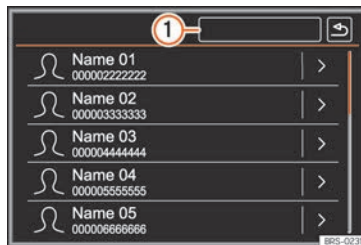

Fig. 222 Contacts Menu (phonebook).
- Press the **Search** function button »» Fig. 222 to open the search window.
- Press the function button **>** »» Fig. 222 located next to the entry on the contacts list.